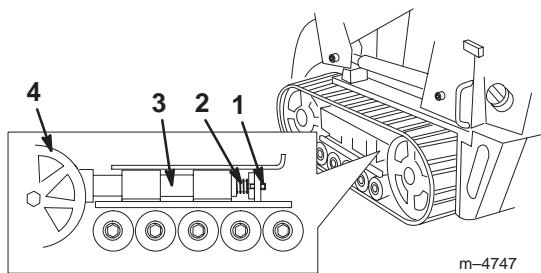

Figure 1
2. Remove the tensioning screw locking bolt and nut (Fig. 1).